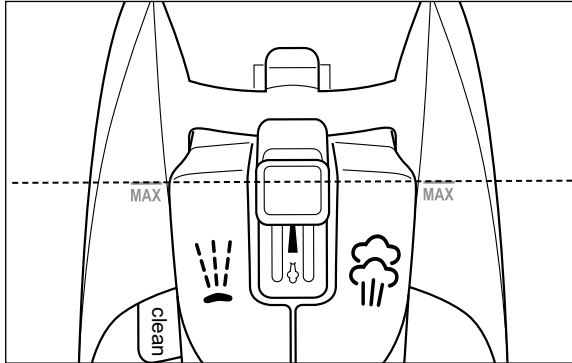

Fig. 5
- 4) Fill the water tank **13** to the mark **MAX** at the most. Place the steam iron on the base **10** and check that the filling level does not exceed the mark **MAX** (see Fig. 5). Pour out any excess water. The maximum filling capacity of the water tank **13** is approx. 320 ml.